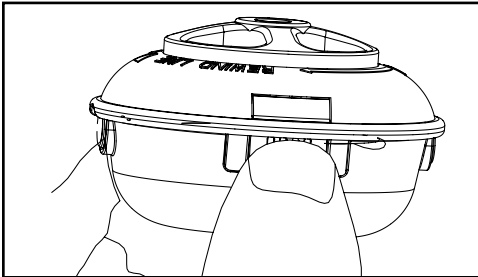

Fig. 14
1. Open the cutting line spool by pressing two release buttons on the side and take out the winding core (Fig.14 & 15).